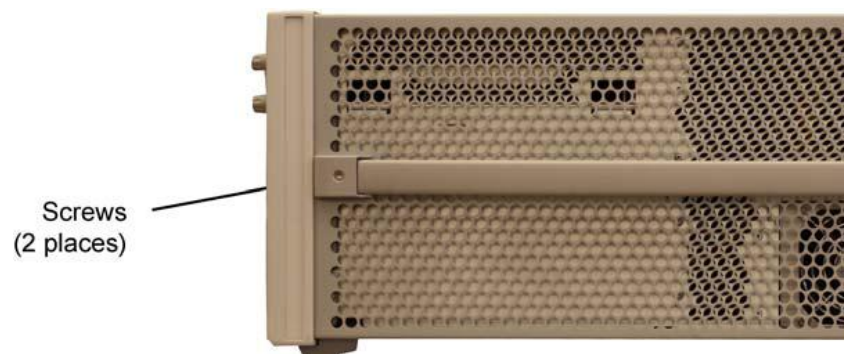

Figure 2 Removing the Side Handles
3. Remove the two screws that secure each handle to the side of the mainframe, as shown in Figure 2.